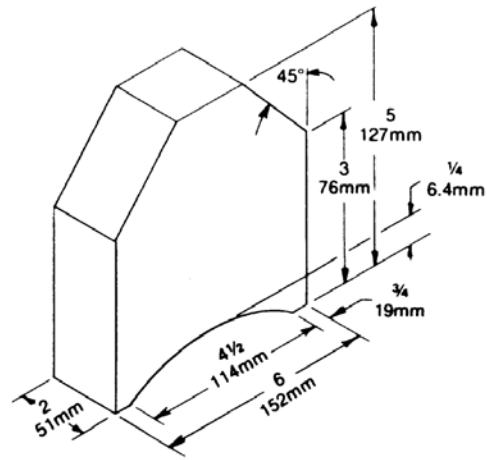

Figure 14
NOTE: If a bed and feed roll gauge is not available, use a finished block of wood with notches cut out for the table rollers, and a feeler gauge. See Figure 14 for an example of a wood block used as a gauge.)
1. Rotate the lock nut (A, Fig. 14), clockwise to increase tension, counterclockwise to decrease.